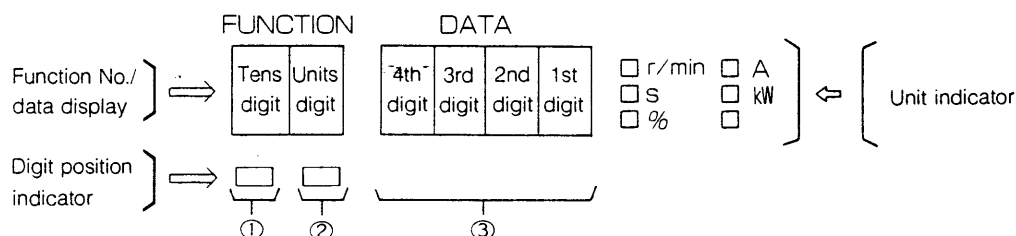

Fig. 8-3-1 LED display
(1) Steps
①~④ Select a required function in the same way as 8-3 ①~④.
⑤ Press **SHIFT** and turn off selection indicators ① and ② in Fig. 8-3-1 to shift to a parameter setting mode. Note that during inverter operation, a parameter setting mode can not be displayed in connection with parameters that are disabled from setting during operation.
(1) At fault occurrence.
- ① When a fault occurs, the present display mode is automatically changed to a fault display mode (FNO. 40) and the code of a fault that occurs first (1st fault) is shown on DATA display.
The units digit ② of the selection indicator is lit (see Fig. 8-3-1).
- ② To see if another fault is combined, call FNO. 41 with \wedge . FNO. 41 displays the code of a fault that occurs second (2nd fault).